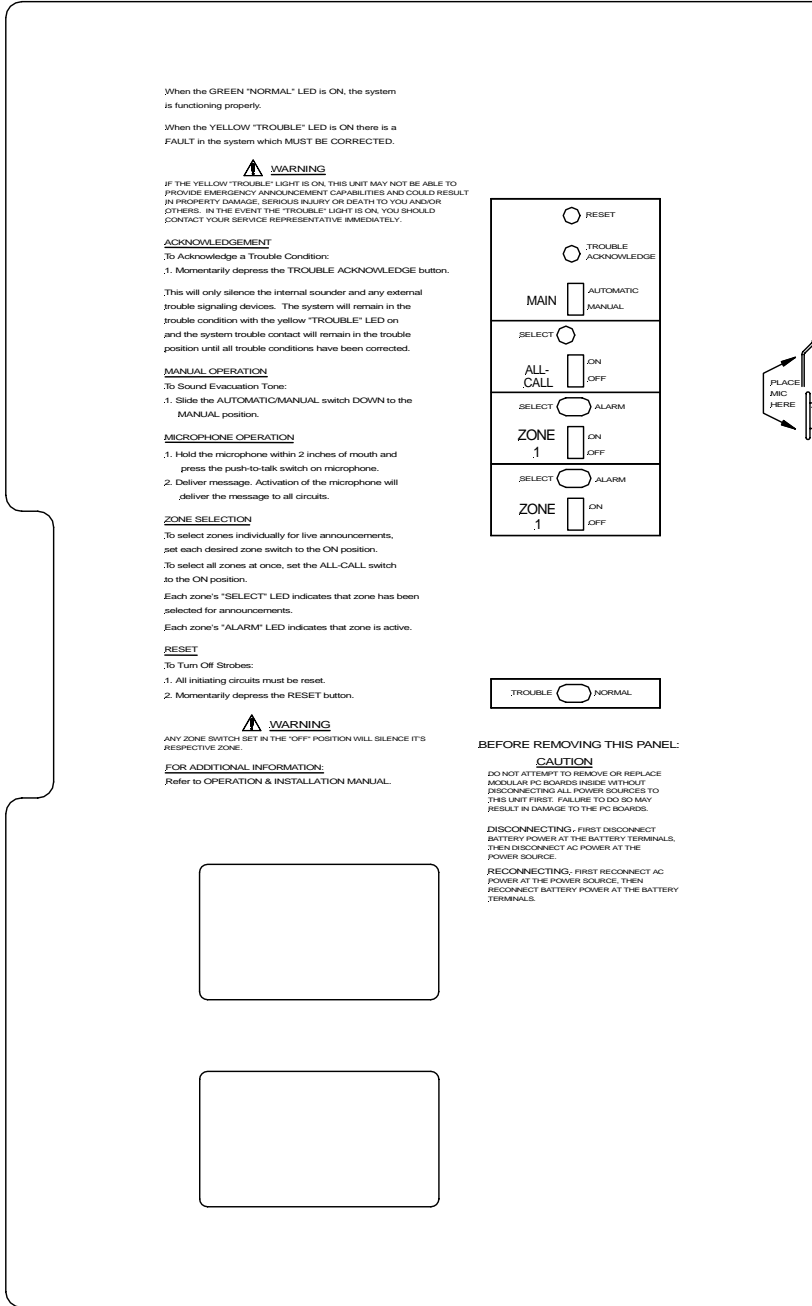

Figure 5-1
An operator's console, which allows for manual override of the automatic message playing, is provided. The operator's console includes a microphone, a "RESET" pushbutton, a "TROUBLE ACKNOWLEDGE" pushbutton, a main "AUTOMATIC/MANUAL" switch, an "ALL-CALL ON/OFF" switch, two "Zone" select switches, and "NORMAL", "TROUBLE", Zone "SELECT", Zone "ALARM" and an all-call "SELECT" LEDs. Opening the enclosure door accesses the operator's console. See Figure 5-1 on Page 5-3 for front panel layout.
The **SAFEPATH**[®] Panel provides an operator console for manually activating the panel. The operator console includes a microphone, a green "NORMAL" LED, a yellow "TROUBLE" LED, a "RESET" push button, a "TROUBLE ACKNOWLEDGE" push-button switch, a "MANUAL/AUTOMATIC" switch, an "ALL-CALL" switch, "ZONE 1", and "ZONE 2" switches. The operator interface allows the operator to manually override automatically playing pre-recorded messages with live announcements or an evacuation tone, to silence internal and external trouble audibles, and to ascertain if the panel has detected a trouble condition. The operator console instructions located on the dead front panel and are shown in Figure 5-1 on Page 5-3.
1. Select Zones or use "ALL-CALL" for all zones. See Figure 5-1 for switch locations.
1. Slide the "AUTO/MANUAL" switch on the panel down to the MANUAL position. The selected tone will play. Turn off the tone by returning the AUTOMATIC/MANUAL Switch to the UP position. See Figure 5-1 on Page 5-3 for switch location. All zones will be selected.
2. Slide the "AUTO/MANUAL" switch down to the MANUAL position. The selected tone will play. Turn off the tone by returning the AUTOMATIC/MANUAL Switch to the UP position. See Figure 5-1 on Page 5-3 for switch location.
2. Momentarily depress the "RESET" pushbutton. See Figure 5-1 on Page 5-3 for pushbutton location.
1. Momentarily depress the "TROUBLE ACKNOWLEDGE" pushbutton. See Figure 5-1 on Page 5-3 for pushbutton location.